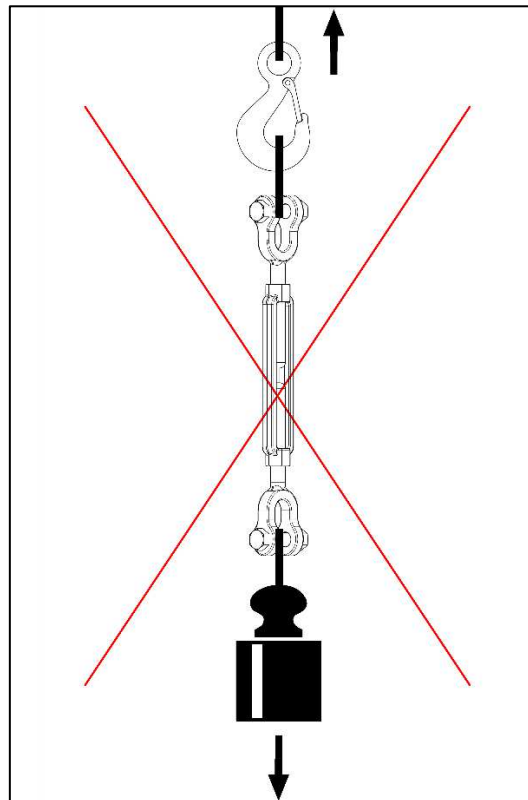

Fig.5
The turnbuckle can also be used for lifting operations, if it is not a single pull (par.10 fig.5). In these conditions, in fact, the load can rotate freely, generating the risk that the terminals will unscrew until escape from the turnbuckles, with consequent fall of the load.
- DO NOT use the single pull lifting accessory (Fig.5);